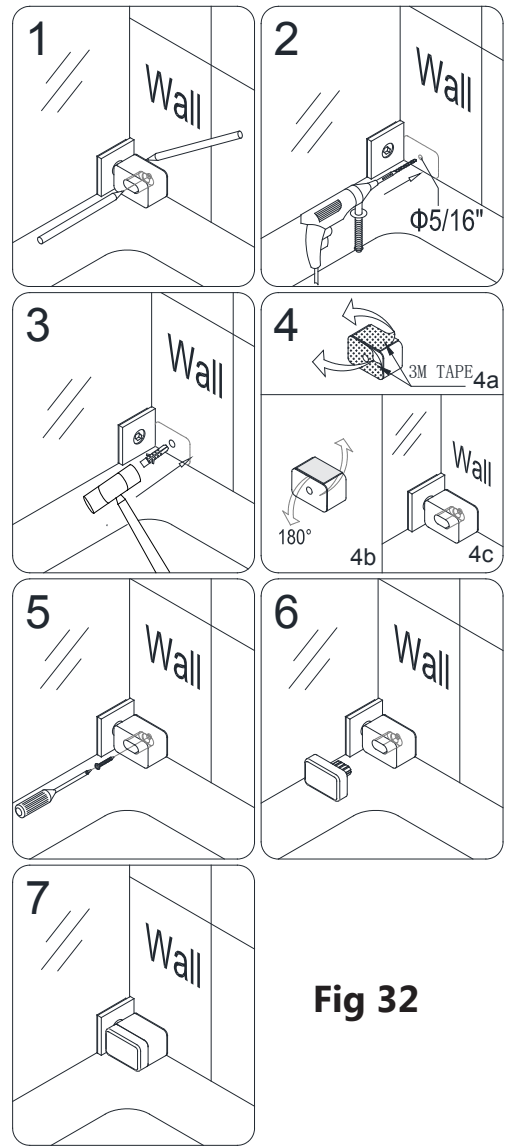

Fig 32
30. To install the **Bumper (#30) with the screw method:** position the **Bumper (#30)** onto the threshold and against the wall on the stationary panel side of the installation. (**For 72" model**, this will be the side of the opening with the large stationary panel). and mark the position of the hole onto the wall. Drill a $\text{Ø}5/16''$ hole and insert the wall anchor. Remove the 3M Tape and position the **Bumper (#30)** onto the threshold against the **Wall Bracket (#19)** and attach using the **ST4.2 x 40 Countersunk screw**. (Fig 32)